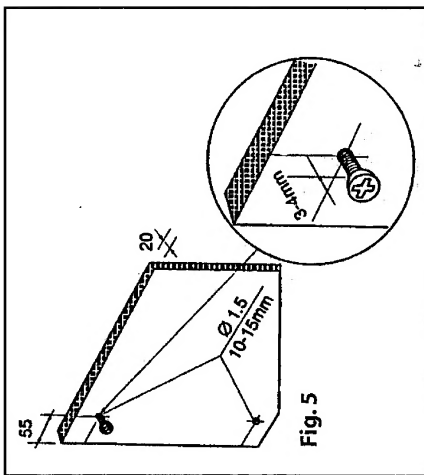

Fig. 5a
8. Screw two wood screws into the drilled holes (4.2 x 15 cheese-headed cross cut recommended) not screwing down fully, but leaving 3-4mm between the head and the panel surface (see Fig. 5a).